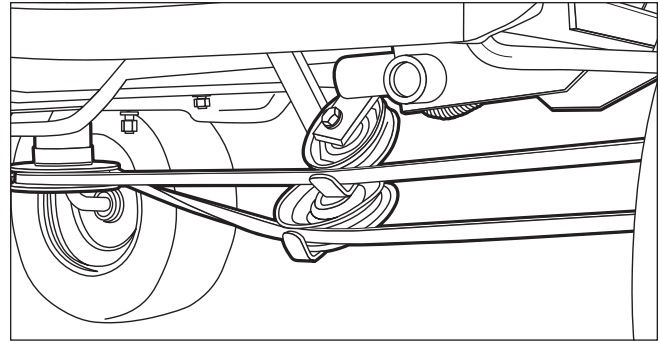

Figure 9. Front Idler Pulley Installed
3. Hook the slot (D) onto the tractor frame as shown in Figure 9.